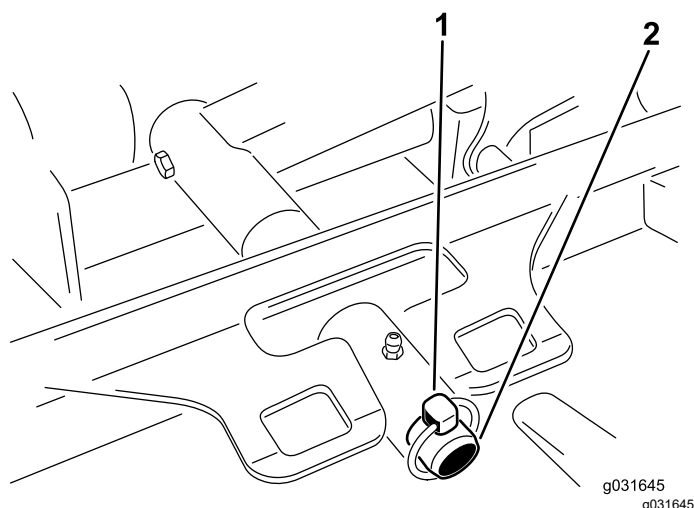

Figure 66
3. Remove the lynch pin or retaining nut securing the deck carrier frame to the lift-arm-pivot pin (Figure 66).
3. Slide the deck-carrier frame onto the lift-arm-pivot pin and secure it with the lynch pin or retaining nut (Figure 66).